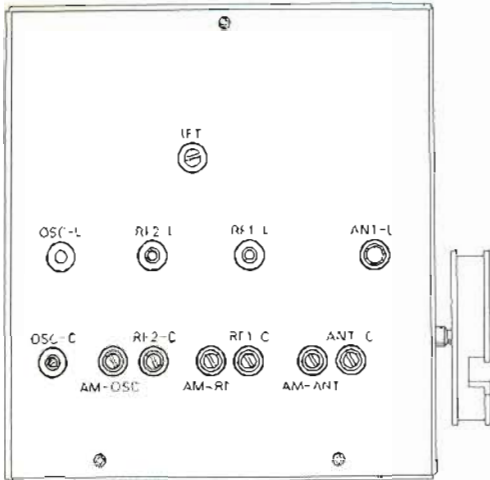
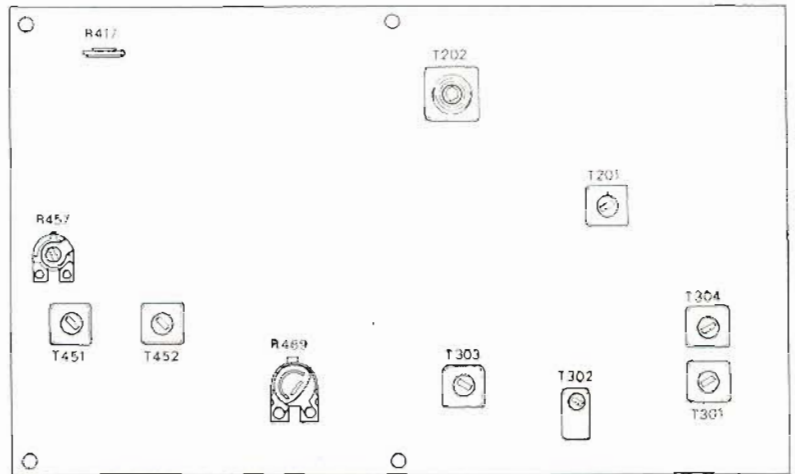
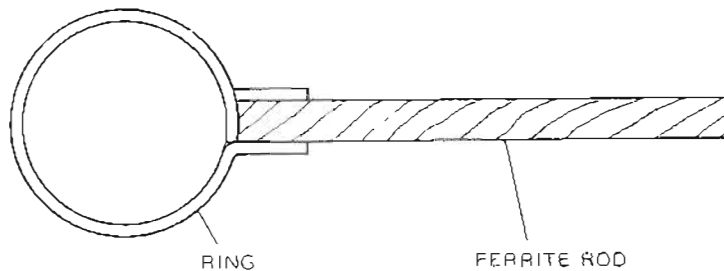

Fig 2
Fig 3
Fig. 6
Note: For adjusting point, refer to Fig. 3.
Similarly, adjust OSC-C to receive 108MHz signals. Repeat these adjustments two or three times. (see Fig. 2)
While receiving 88MHz signals, adjust ANT-L, RFL-L and RF2-L of the front-end until maximum sensitivity is obtained. Similarly, adjust ANT-C, RF1-C and RF2-C at 108MHz. (see Fig. 2)
Turn the semi-fixed variable resistor R469 on TUNER PCB ASSY BOARD fully clockwise. Then connect a frequency counter to the test point adjacent to IC451(HA-1156) and adjust the semi-fixed variable resistor R457 so that the frequency counter indicates 19kHz. Next, adjust the semifixed variable resistor R469 for maximum separation, and then adjust the coils T451 and T452 for minimum carrier leak. Finally, adjust the semi-fixed variable resistor R417 until the output level from TAPE OUT reaches $780\text{mV} \pm 2\text{dB}$ while receiving a monaural signal. (see Fig. 3)
Note: For adjusting points, refer to Fig. 2. and Fig. 3.
- (1) Use the sweep generator in the same manner as described in Item 2 "Frequency Coverage Adjustment". First set the sweep waveform to the 600kHz marker and adjust AM ANT Coil for maximum waveform. Then set the receiver to 1400kHz and adjust AM ANT, AM RF (FRONT END ASSY) for maximum waveform. Repeat the above adjustments two or three times so that tracking error can be fully eliminated. Note: To obtain maximum sensitivity, the input signal level should be adjusted with an attenuator.
- (2) To check tracking errors, use a jig made up of a copper wire ring and ferrite rod (see Fig. 6). Bring the ring and the ferrite rod alternately close to the ANT Coil and confirm that the sweep waveform is minimized. Note: For adjusting points, refer to Fig. 2.